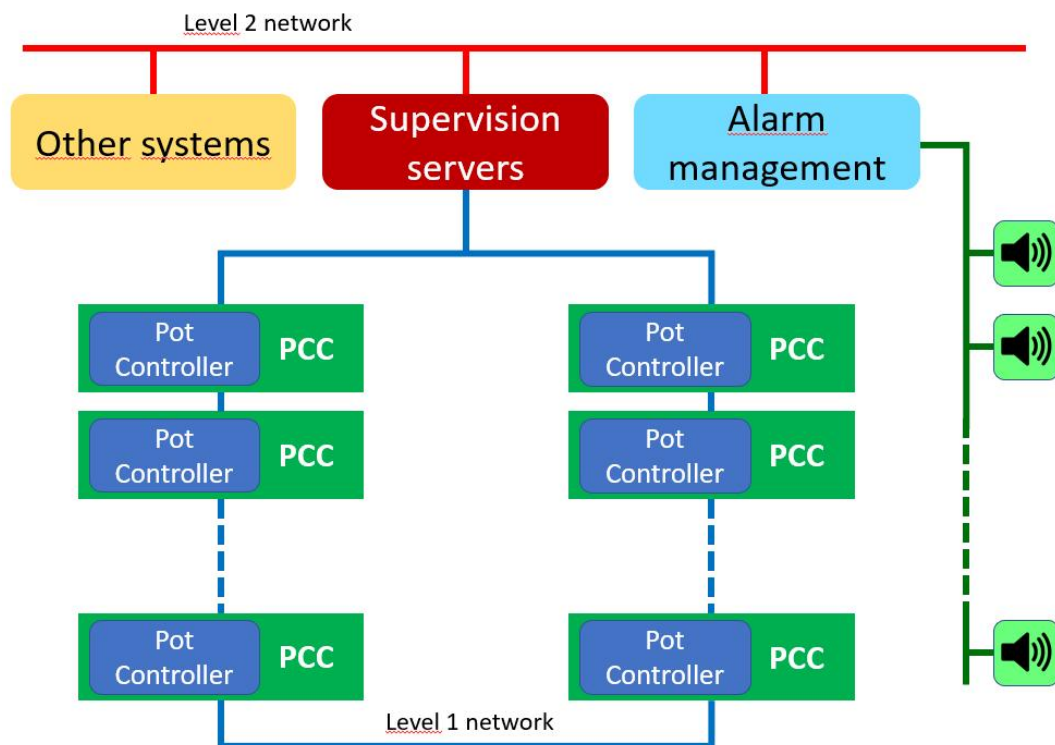

Figure 1. Architecture of a PCS.
- Level 0 corresponds to all physical equipment: sensors, pot controller cabinet (called PCC), safety equipment installed in the potline. Generally, there is one set for each pot (in green in Figure 1).
- Level 1 corresponds to the software and hardware relevant to the process real time acquisition control and command. With ALPSYS, you can have one set per pot or one set for two pots (in blue in Figure 1).
- Level 2 corresponds to the software and hardware relevant to the pot and potline supervision and management application, servers and workstations, networking and communications between the equipment and the software of all systems with which it relates (in red in Figure 1).